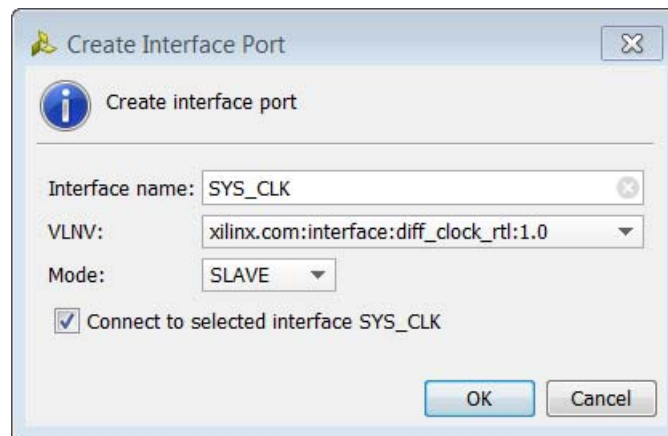

Figure 5-31: Connecting the On-Board Clock Source to the MIG Core
3. In the Create Interface Port dialog box, specify the options as shown in Figure 5-31.